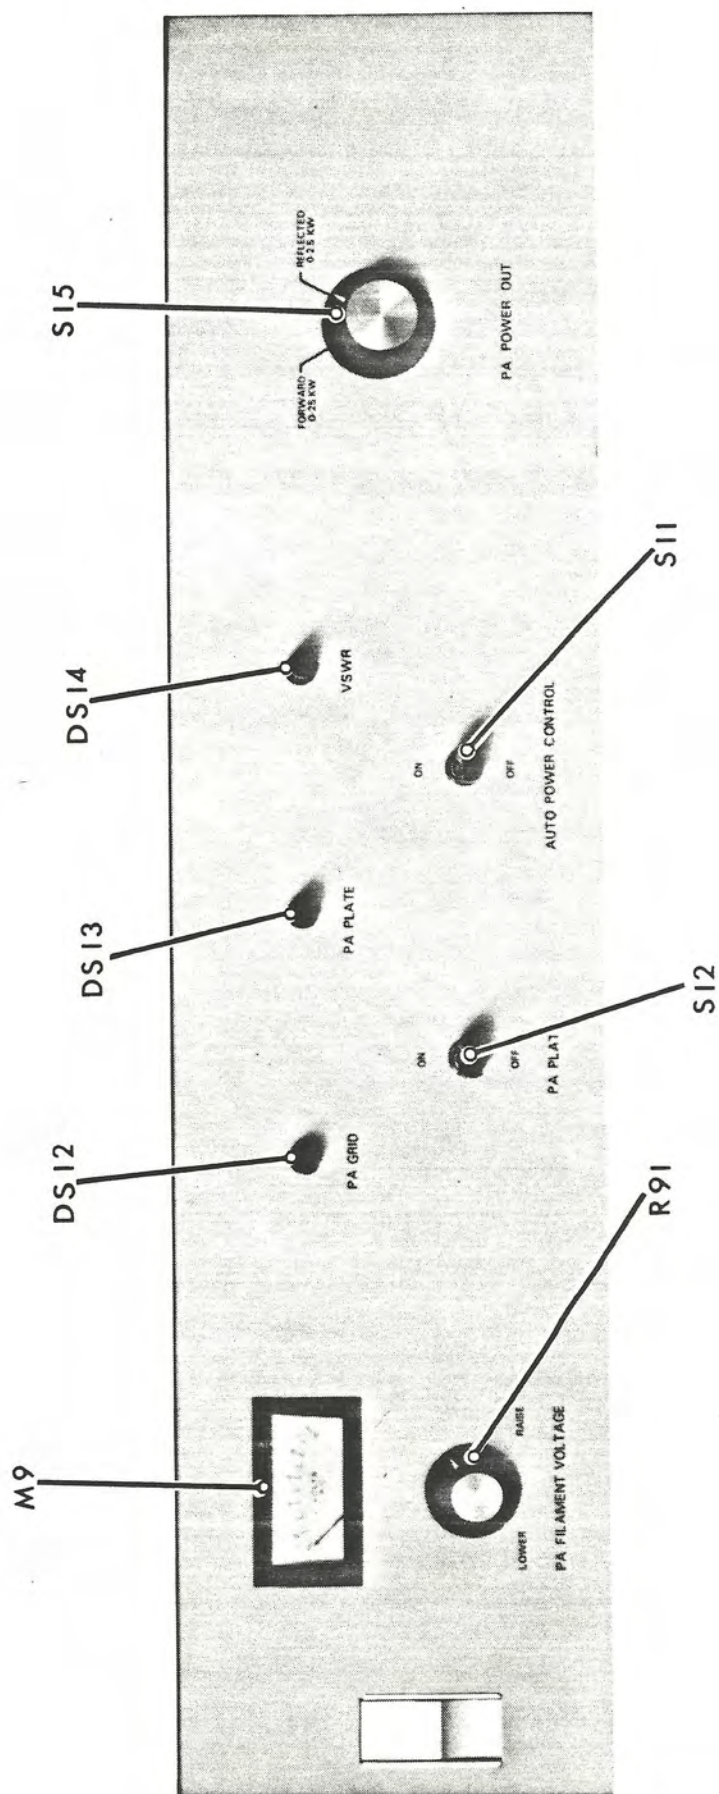

FIGURE 3-8. PA CONTROL PANEL
- f. Adjust PA FILAMENT VOLTAGE control R91 for an indication of 6.15 vac on PA filament meter M9. (See figure 3-8) If the 6.15 vac indication cannot be obtained, change the primary tap on transformer T4 as required. (See paragraph 2-4.2.)